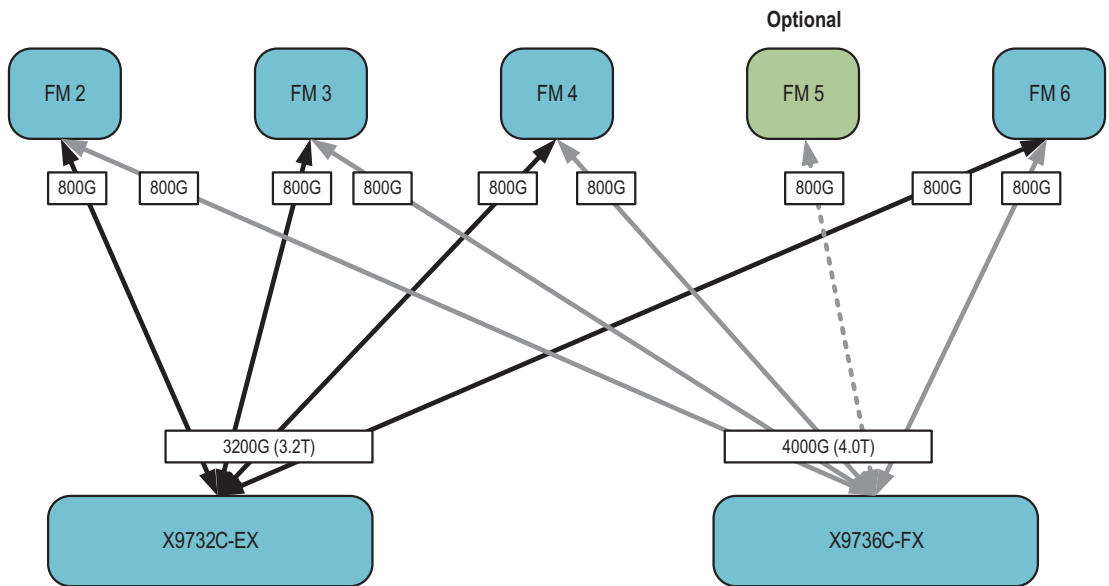

Figure 2-5. Nexus 9500 internal architecture
Internally, Nexus 9500 is designed (architecture-wise) as a leaf-spine topology itself. Each fabric module (FM) inserted from the rear of the chassis comes with one or multiple CloudScale ASICs and creates a spine layer for the internal fabric. On the other hand, line cards with their set of ASICs act as leaf layer connected with all fabric modules. Together they provide non-blocking any-to-any fabric and all traffic between line cards is load balanced across fabric modules, providing optimal bandwidth distribution within the chassis (see Figure 2-5). If a fabric module is lost during the switch operation, all others continue to forward the traffic; they just provide less total bandwidth for the line cards. There are five slots for fabric modules in total. If you combine different line cards inside the same chassis, the fifth fabric module is automatically disabled and unusable. This is due to the lack of a physical connector for the fifth module on all line cards (at the time of writing) except for X9736C-FX, which supports all five of them. Generally, you can always use four fabric modules to achieve maximal redundancy and overall throughput.